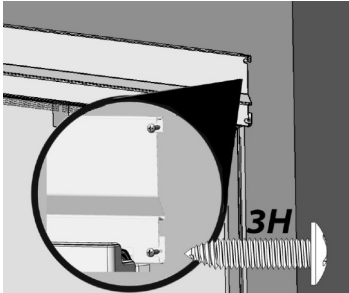

Fig. 13
- b. Drill 1/8" pilot holes and fasten two 3H screws on the right side of the Top Trim with a Phillips screwdriver to cabinets (Fig. 13).